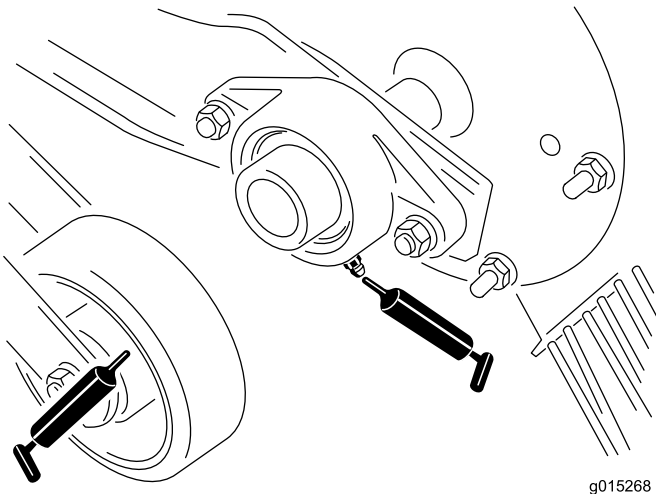
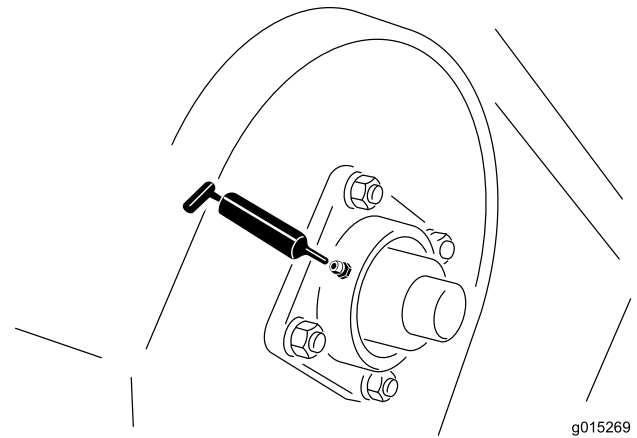
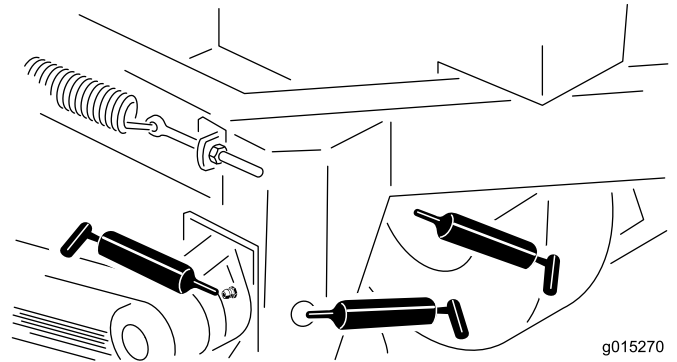

Figure 14
Figure 15
Figure 16
2. Pump grease into the bearing or bushing (Figure 14, Figure 15, and Figure 16).